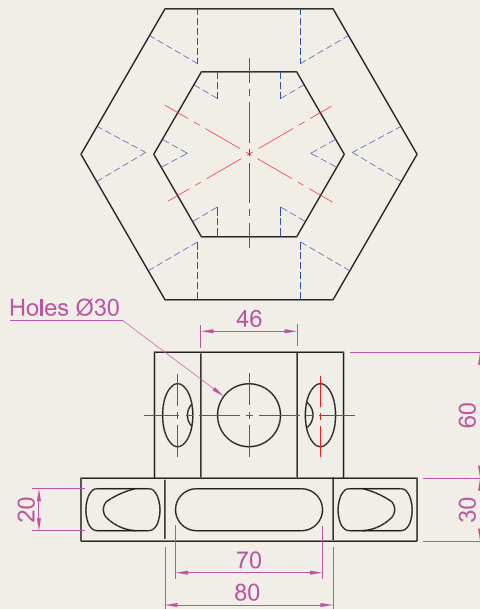
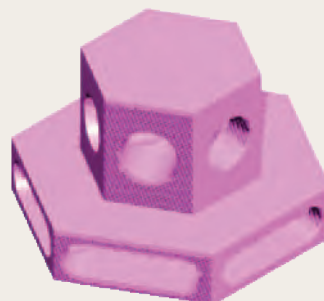

Fig. 17.35 Exercise 2 – details of shapes and sizes
Fig. 17.36 Exercise 2 – a rendering
- The two-view projection (Fig. 17.35) shows a stand consisting of two hexagonal prisms. Circular holes have been cut right through each face of the smaller hexagonal prism and rectangular holes with rounded ends have been cut right through the faces of the larger. Construct a 3D model of the stand. When completed add suitable lighting to the scene. Then add a material to the model and render (Fig. 17.36).